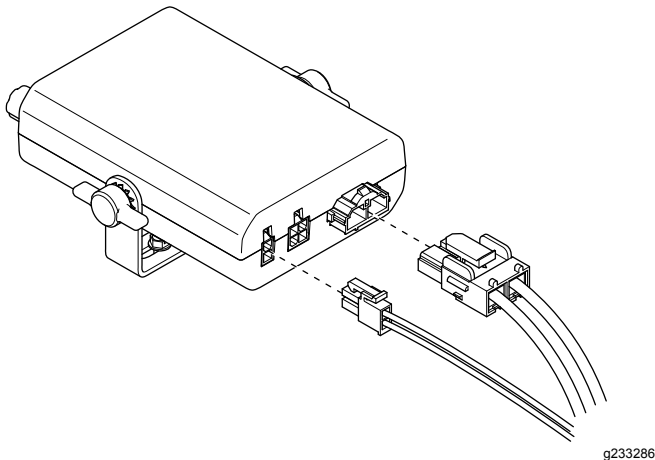

Figure 16
3. Connect the wire harness controller connectors to the controller (Figure 16).